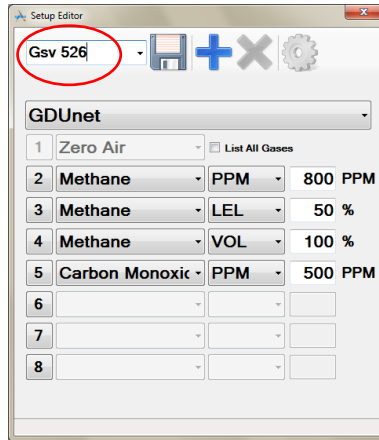

Fig. 6-10 Name Template
14. To name 'gas setup', position cursor in window then type name of setup template, as illustrated in example Fig 6-10.